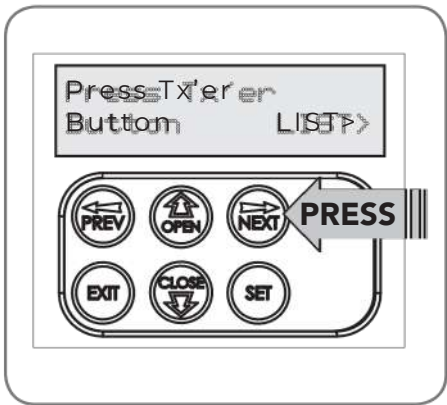

Fig H.1
- a. Press NEXT to navigate toMenu 1 (Fig. H.1).
- a. Press NEXT to navigate to Menu 1 (Fig.H.1)